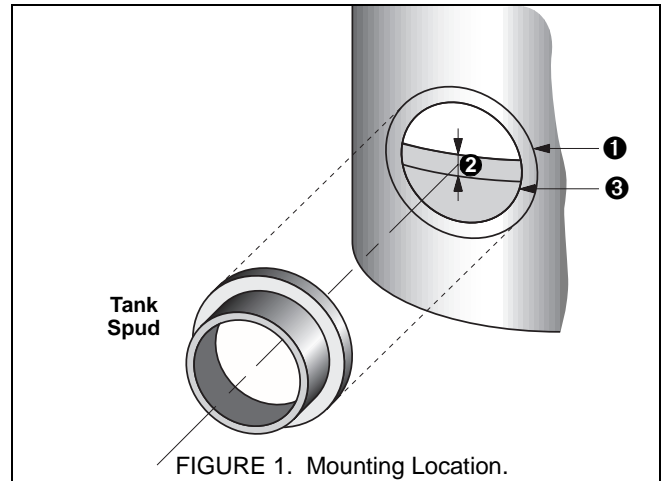

FIGURE 1. Mounting Location.
Because the clearance between the inside diameter of the tank spud and the transmitter diaphragm extension is small, the tank spud must be welded to the tank with a minimum of distortion. A **recommended welding guideline** is included below. An area with a minimum diameter of 9¼ in. (235 mm) on the tank is needed to weld the tank spud as shown in Figure 1. ❶
Vertical locations of the tank spud center line should be at least 1½ in. (38 mm) below minimum measurement level as shown in Figure 1. ❷ At least half of the diaphragm surface must be covered to obtain proper level measurement.
1. Cut a 6 in. + 1/16-0 (153 mm + 2-0) dia. hole in the tank as shown in Figure 1. ❸